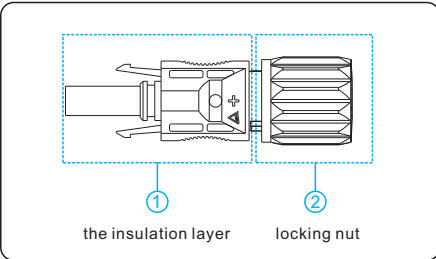
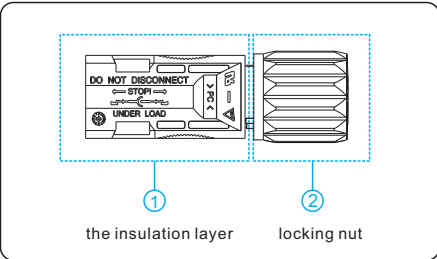

Figure 5.8 Positive connector compositions
Figure 5.9 Negative connector compositions
- Connectors of PV Strings: Positive and negative DC input connectors are used, as shown in Figure 5.8 and Figure 5.9.